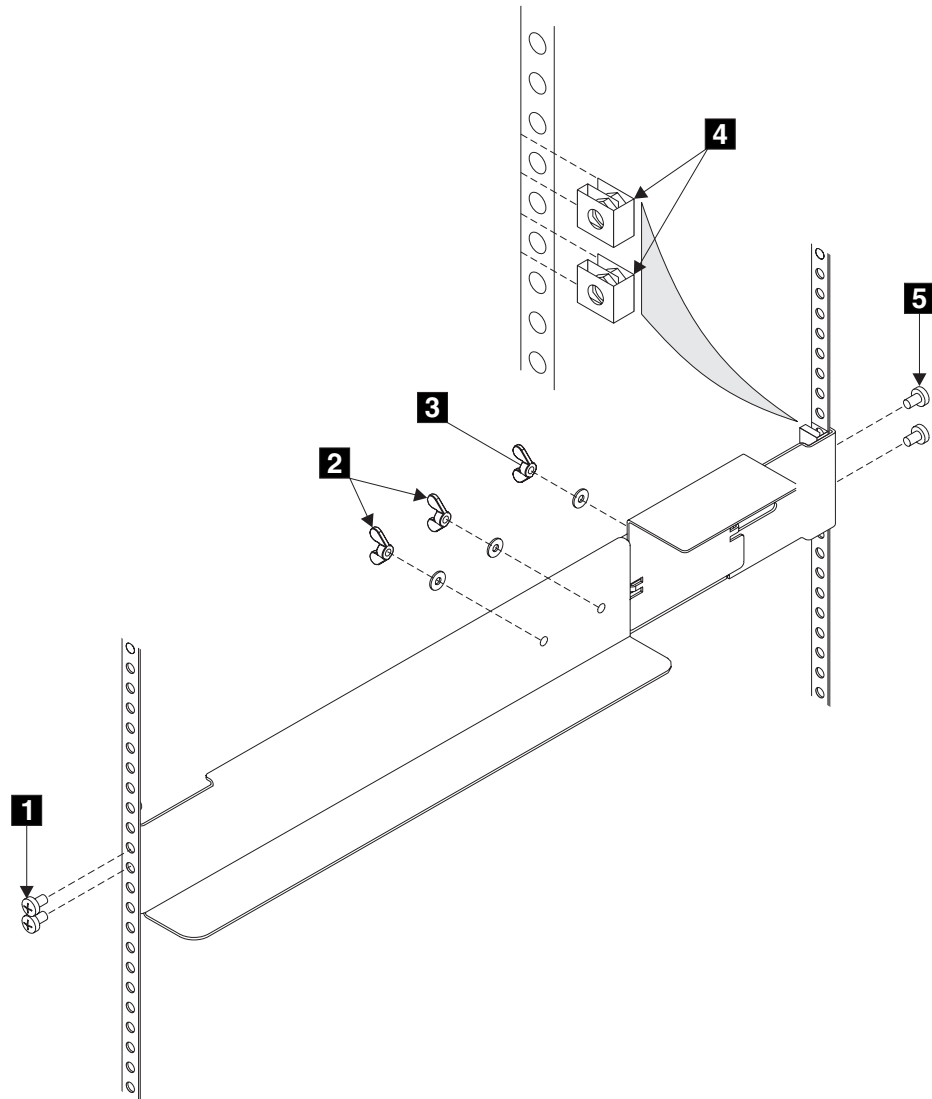

Figure 227. Removing support rails for a 2145 UPS from the rack
2. Loosen the two adjustment wing nuts **2** (Figure 227 on page 487).